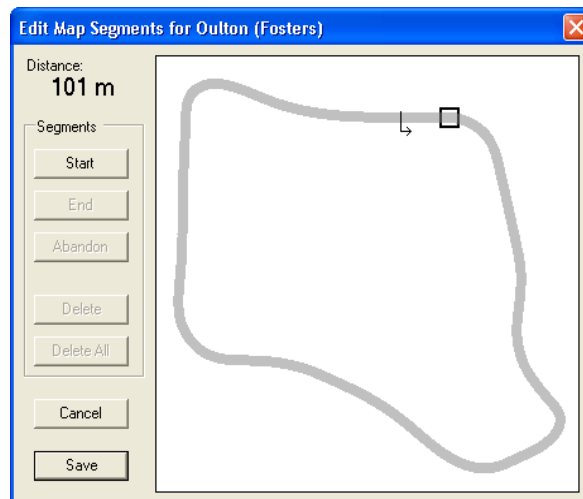

Figure 24 - Edit Map Segments Dialog (No Segments)
2. Choose **Map ➔ Edit Segments** from the main menu or select the **Edit Segments** from the circuit map context menu. The Edit Map Segments dialog (Figure 24) appears.